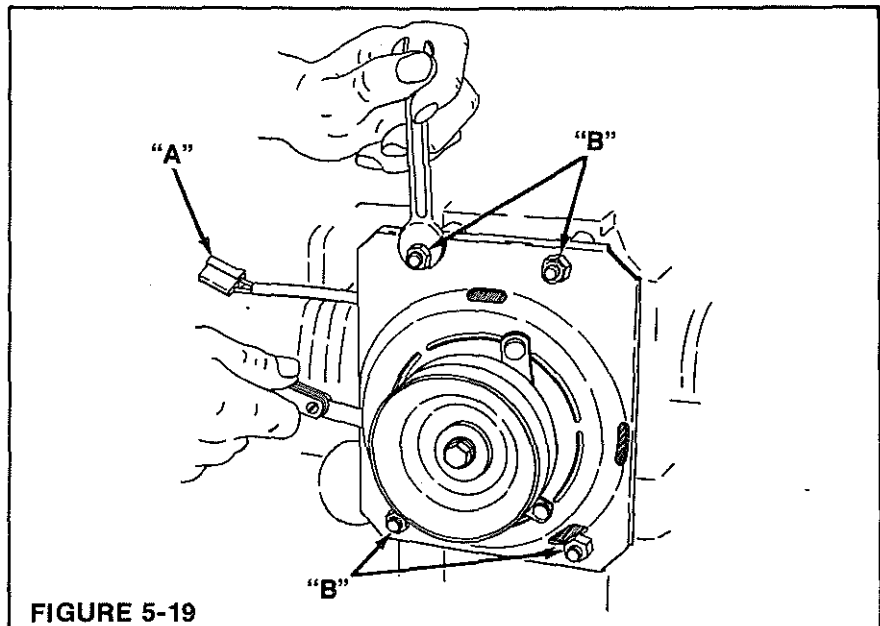

FIGURE 5-19
Disconnect polarized plug (A) Figure 5-19 from clutch.